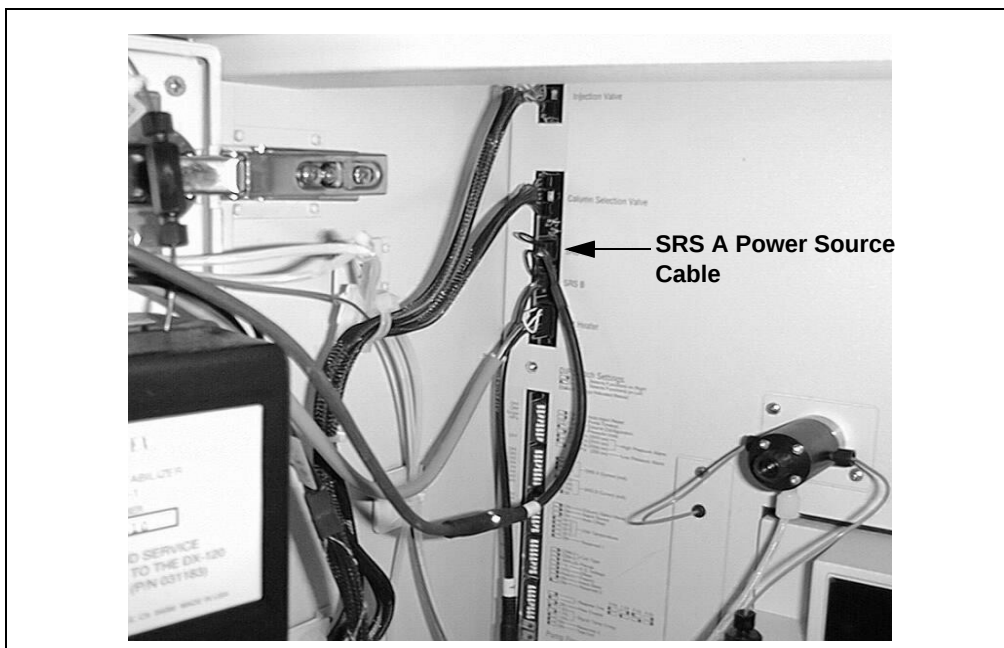

Figure 13. The DX-120 SRS A Power Source Cable
2. Locate the SRS A Power Source cable in the main compartment (see Figure 13).